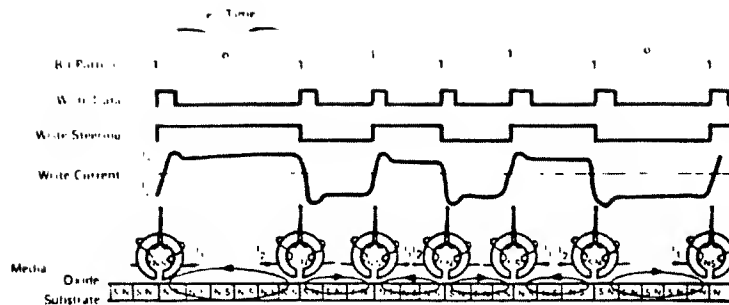

Figure 4-5: Basic Recording Technique
4.2.7.1 DATA RECORDING: To record digital data, current is passed through the winding on the write/read head core which sets up a flux field across the write/read gap. This orients the iron oxide particles on the diskette surface underneath the gap to the same polarity. The direction of the flux field is a function of the polarity of the write current. Data is written by reversing the current through the head. Each flux reversal represents a data bit. The head(s) in the drive uses a center-tapped write/read winding, where the current reversal is accomplished by steering the current through one or the other of the two halves of the winding. Figure 4-5 shows the basic recording technique. The following conditions must be accomplished by the user before the recording can begin: